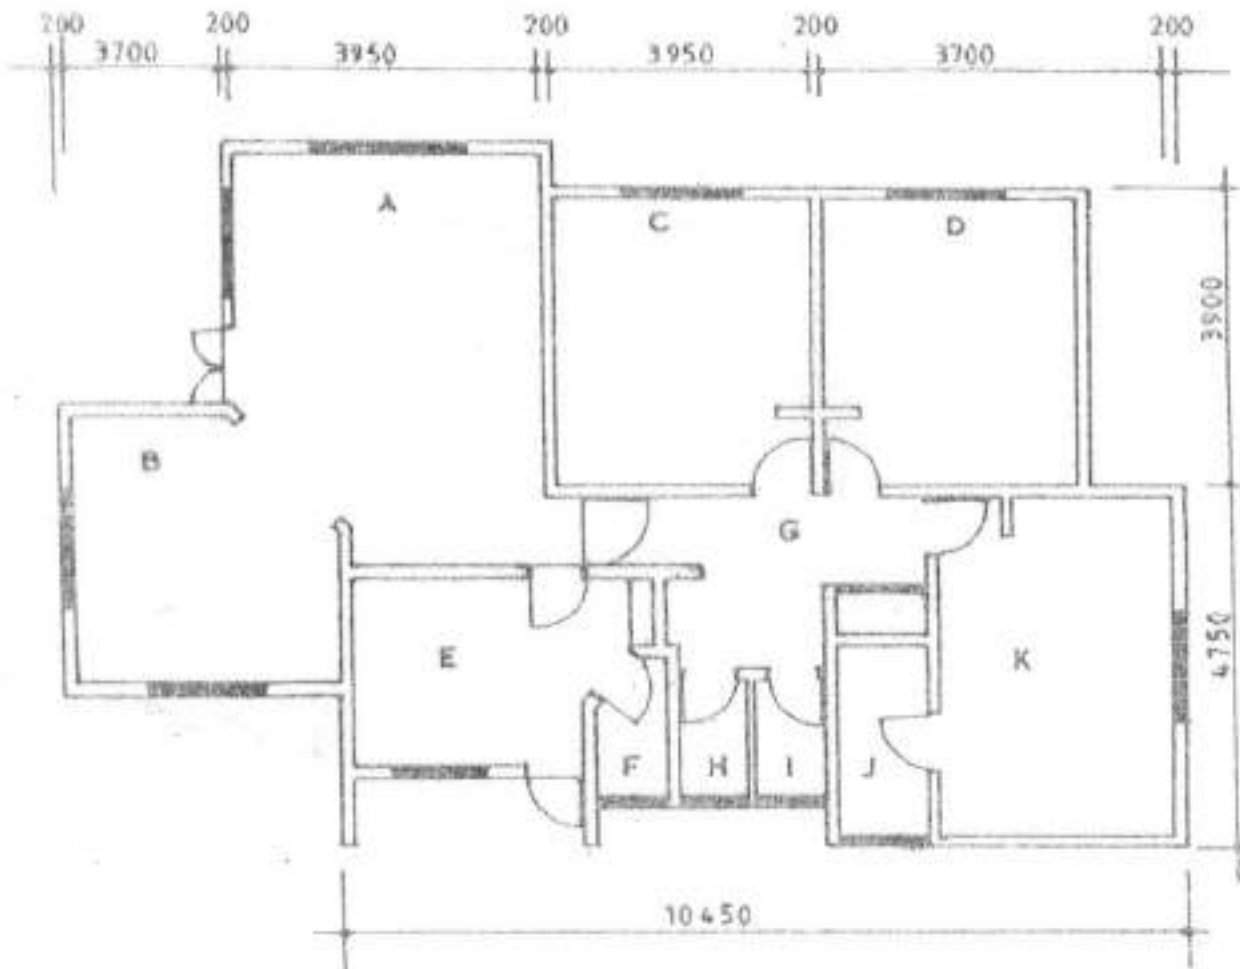

Fig.6
7. Figure 6 shows the ground plan of a floor layout for a three bedroomed house. Make a suitable design for lighting and power points for the installation. Use appropriate architectural symbols and draw a key to describe the symbols used. (20 marks)